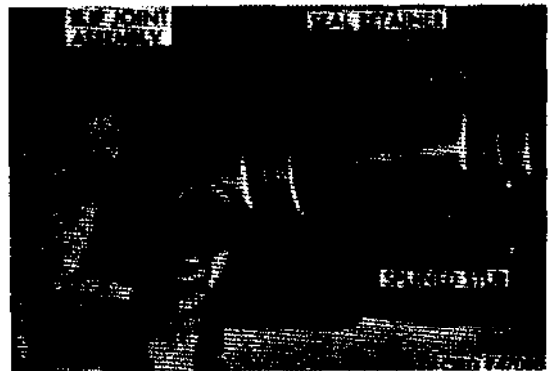

Figure 242. Removing slip joint assembly
b. Propeller Shafts. Disconnect front axle drive propeller shaft at transfer case (par. 160). Remove seal retainer on slip joint assembly (fig. 242) from splined stub to allow clearance for transmission removal. Remove transmission-to-transfer case propeller shaft (par. 160).